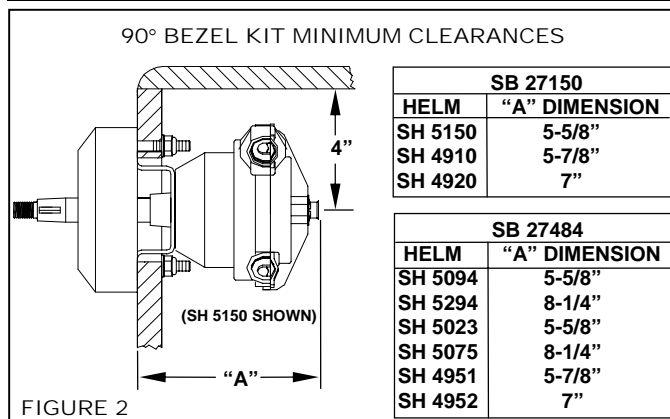

FIGURE 2
**NOTE:** Dimensions shown in Figure 2 or 3 and in the Template must be maintained to provide proper clearance for the helm.